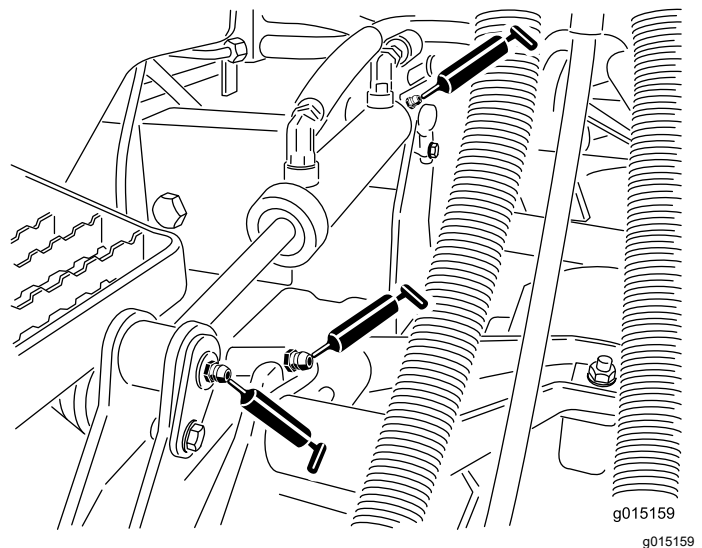

Figure 59
- Lift arm bushings (1 per cutting unit), refer to Figure 59
- Lift cylinder bushings (2 per cutting unit), refer to Figure 59